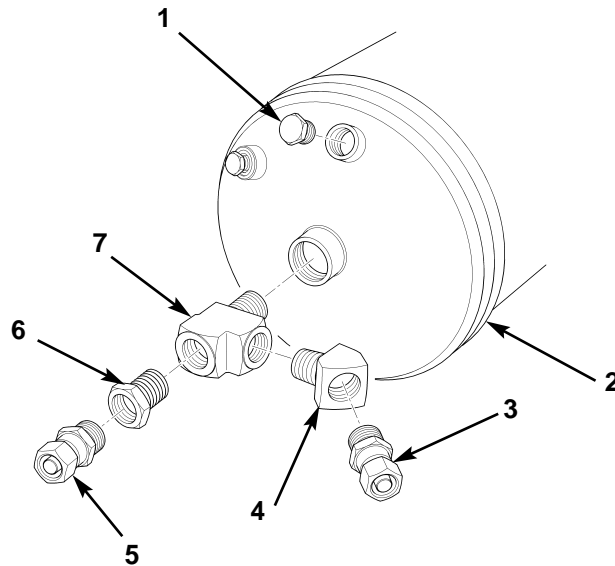

Figure 4. Removing Fittings from Rear of Primary Reservoir.
9. Remove plug (figure 4, item 1) from rear of primary reservoir (figure 4, item 2).
10. Remove adapter (figure 4, item 5) from reducer bushing (figure 4, item 6), and remove adapter (figure 4, item 3) from elbow (figure 4, item 4).
11. Remove reducer bushing (figure 4, item 6) and elbow (figure 4, item 4) from tee (figure 4, item 7), and remove tee (figure 4, item 7) from rear of primary reservoir (figure 4, item 2).
1. Install tee (figure 4, item 7) on rear of primary reservoir (figure 4, item 2), and install reducer bushing (figure 4, item 6) and elbow (figure 4, item 4) on tee (figure 4, item 7).
2. Install adapter (figure 4, item 5) on reducer bushing (figure 4, item 6), and install adapter (figure 4, item 3) on elbow (figure 4, item 4).
3. Install plug (figure 4, item 1) on rear of primary reservoir (figure 4, item 2).